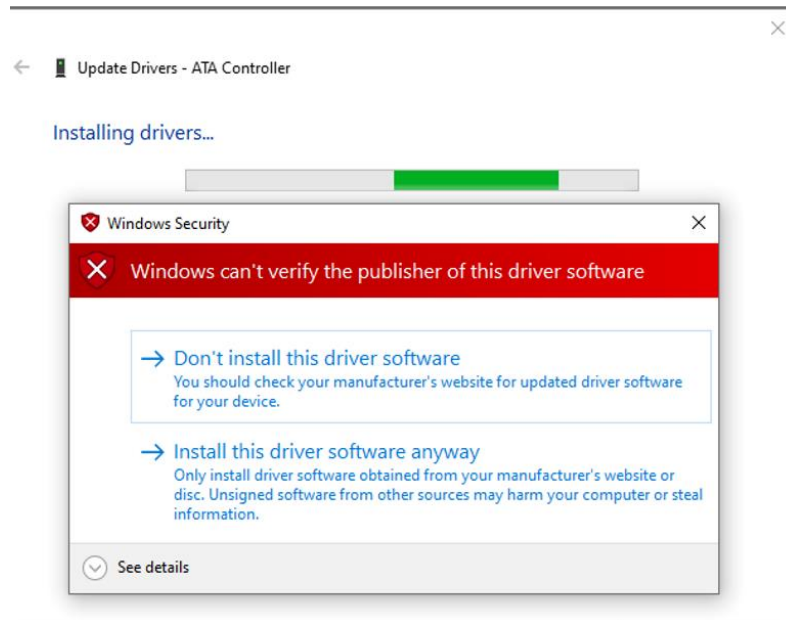

Figure 3.39. Windows Security in Device Manager
7. If you receive a Windows Security prompt, select **Install this driver software anyway** as shown in Figure 3.39.